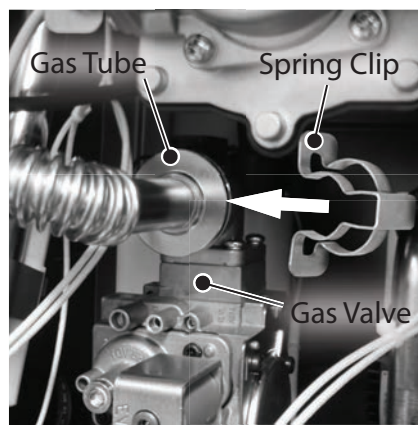

Figure 94 - Secure gas tube with spring clip
- 18** Locate the four (4) screws previously removed in **Step 10**. Use screws to secure fan and venturi assembly to burner assembly.
- 19** Connect the gas tube to the gas valve. Locate the spring clip previously removed in **Step 9**. Orient spring clip properly as shown in Figure 94. Install spring clip to secure the gas tube to the gas valve. Confirm gas connection is tight and will not leak.